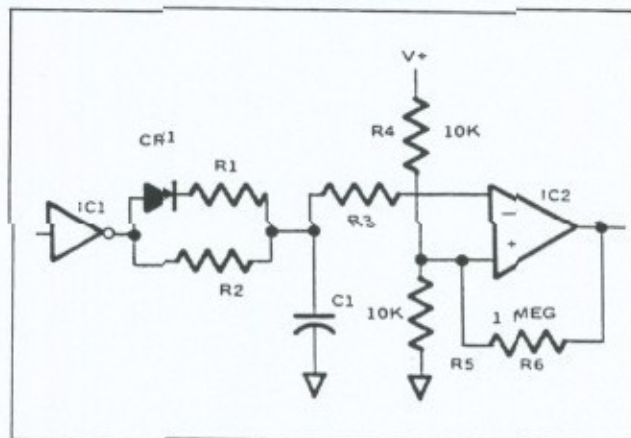

Figure 9-9. Schematic of typical timer
a. Timers. Thirteen timers are used on the digital circuit board to time events or inhibit the action of particular circuits until a predetermined period of time has elapsed. The specific functions of the timers are discussed in paragraph 9.4.5. A typical timer is shown in Figure 9-9.
The input to inverter IC1 in Figure 9-9 is normally a logic low, so its output is high, capacitor C1 is charged, and the output of operational amplifier IC2 is a logic low. As soon as the input to IC1 goes high, its output goes low and C1 begins to discharge through resistor R2. When the voltage across C1 drops below the threshold level set for IC2 by resistors R4 and R5, the output of IC2 will go high.